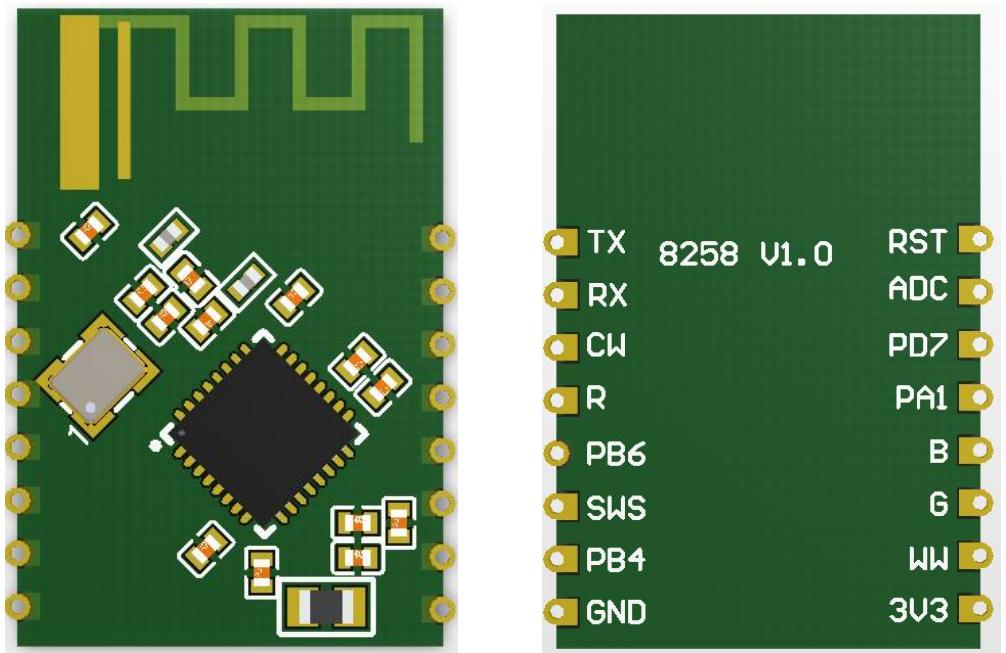

Figure 3.1 Schematic diagram of KLMKBM-01 Bluetooth module
The KLMKBM-01 Bluetooth module has 2 rows of pins, with a pitch of 2mm. KLMKBM-01 Bluetooth module size: 16 ± 0.35 mm (W) $\times 24 \pm 0.35$ mm (L) $\times 2.8 \pm 0.15$ mm (H), and the PCB thickness is 0.8 ± 0.1 mm. The package is shown in Figure 3.1